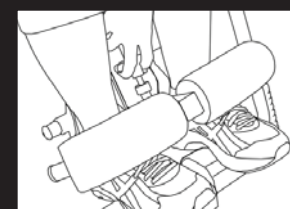

Fig. 8
- Pull the locking pin out to allow the front ankle clamps to snap closed against your ankles (Figure 8). Make sure your pant legs do not interfere with obtaining a secure closure.